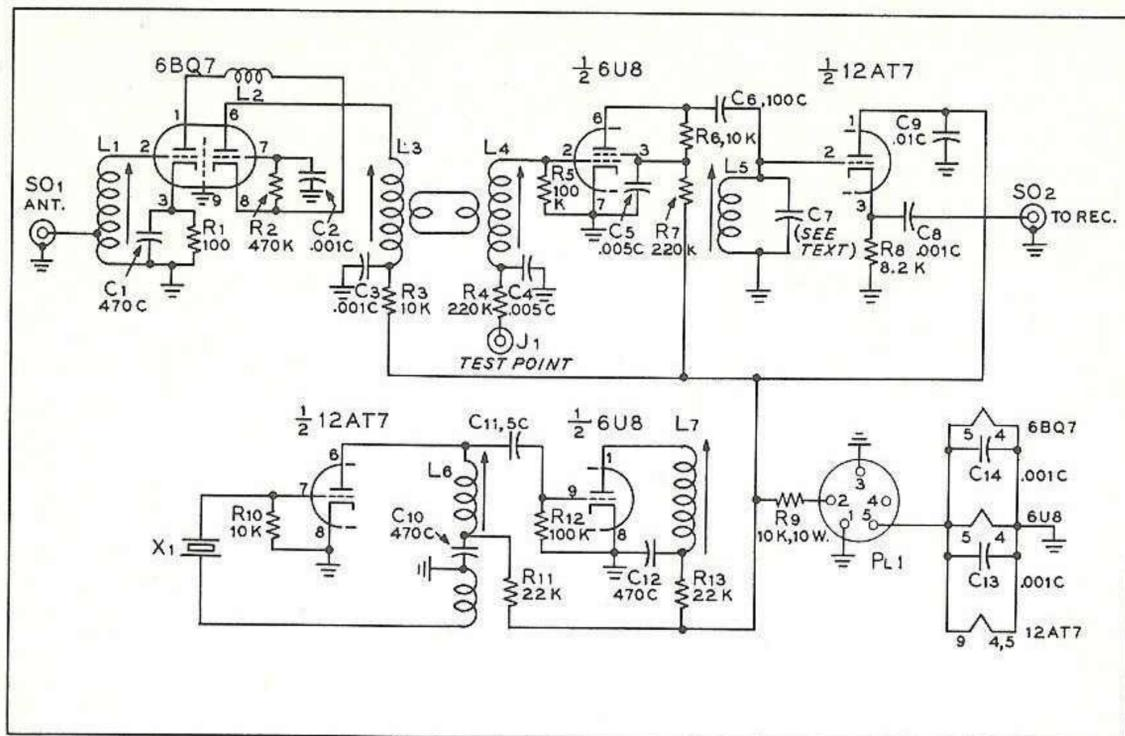

Fig. 16 Schematic diagram of 2N6 crystal-controlled VHF converter.
The 2N6 converter is designed for maximum stability and highest sensitivity in the 50 mc and 144 mc amateur bands. Three tubes are used, as shown in the schematic of Figure 16. A dual triode 6BQ7A is employed as a Cascode r-f amplifier, inductively coupled to a triode-pentode 6U8. The pentode section of this tube is the mixer stage, and the triode section is a frequency multiplier for the conversion oscillator. A test point (J1) is provided in the grid circuit of the mixer stage to allow measurement of the level of oscillator injection. A 12AT7 double triode serves as an overtone crystal oscillator, and as a cathode follower i-f output amplifier stage. "Birdies" and spurious responses are cut to a low value by the use of a double tuned circuit (L3-L4) between the r-f stages of the converter.
- ( ) Check the wiring carefully with Figure 16. Check for poorly soldered joints, shorts, open connections and accidental transpositions.